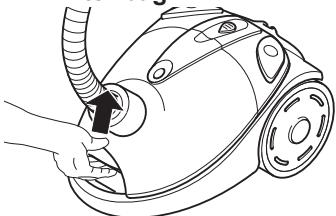

Fig. 18
1. Open the dust chamber cover by unlocking it and then flipping it up (Fig. 18).